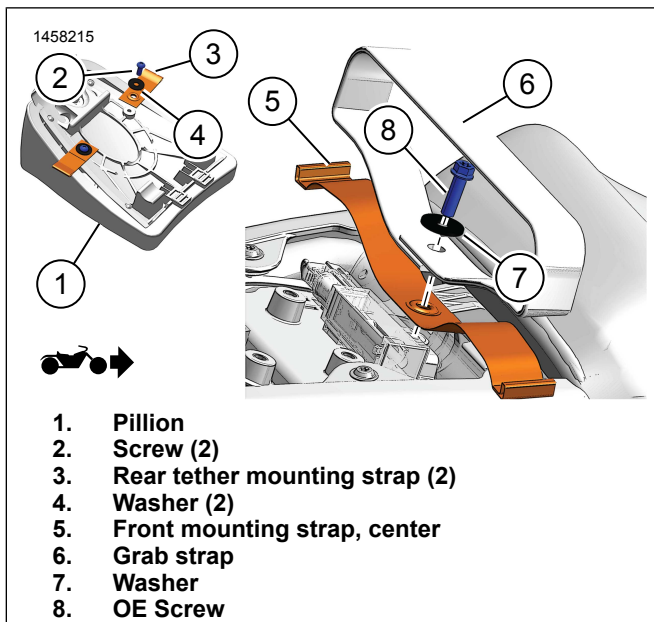

Figure 2. Strap Install
2. Figure 2 Remove Original Equipment (OE) center screw (8) from vehicle frame. Retain.
1. Figure 2 Install front mounting strap.
- a. Apply threadlocker to OE screw (8).
2. Figure 2 Install rear tether mounting straps (3) to pillion (1).
- a. Position rear tether mounting strap (3), washer (4) and screw (2) to pillion (1). Tighten.